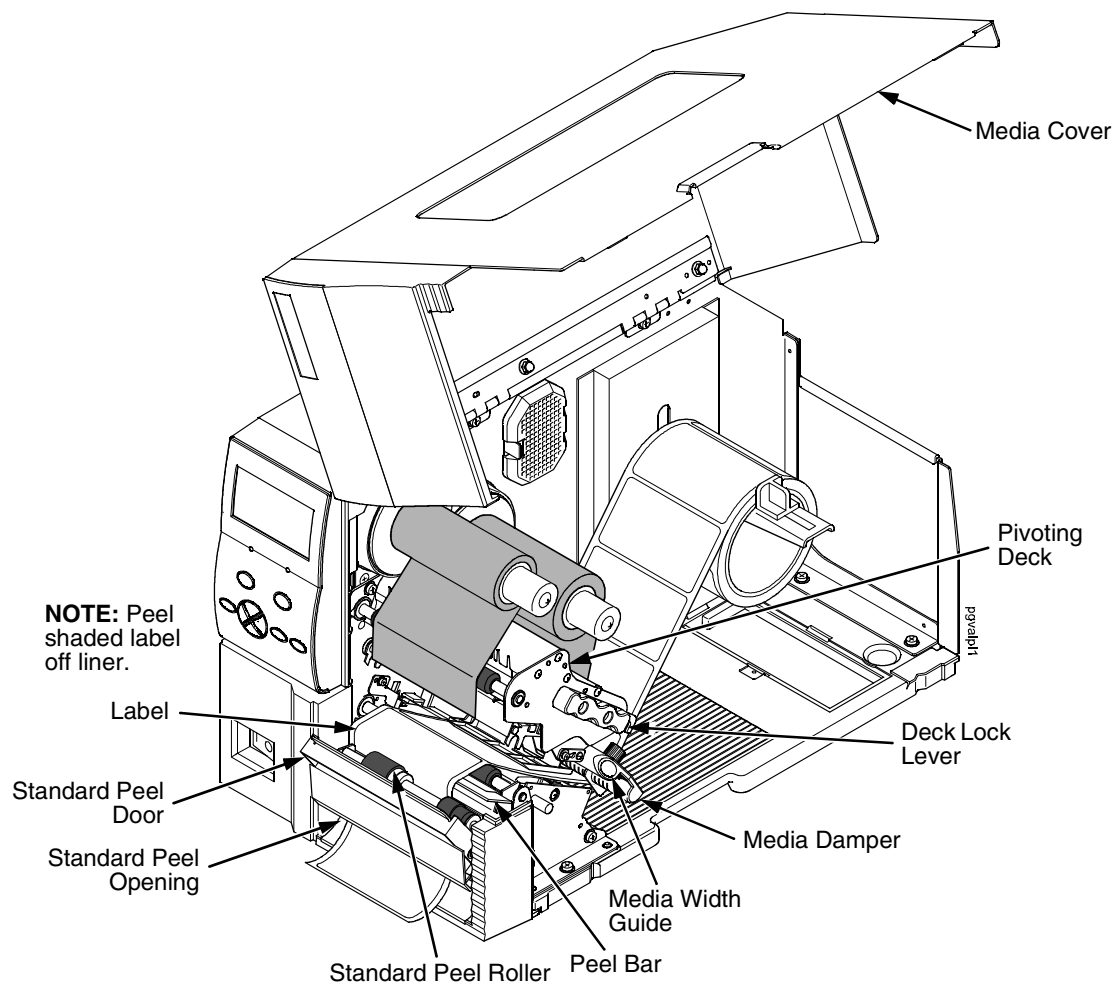

Figure 6. Loading the Printer for Standard Peel Operation
3. Thread the media over the peel bar, behind the standard peel roller, and through the standard peel opening (see Figure 6).
5. Peel the label (located over the tear bar) off the liner (refer to Figure 6). This will prevent the labels from sticking to the tear bar during the initial print feed.